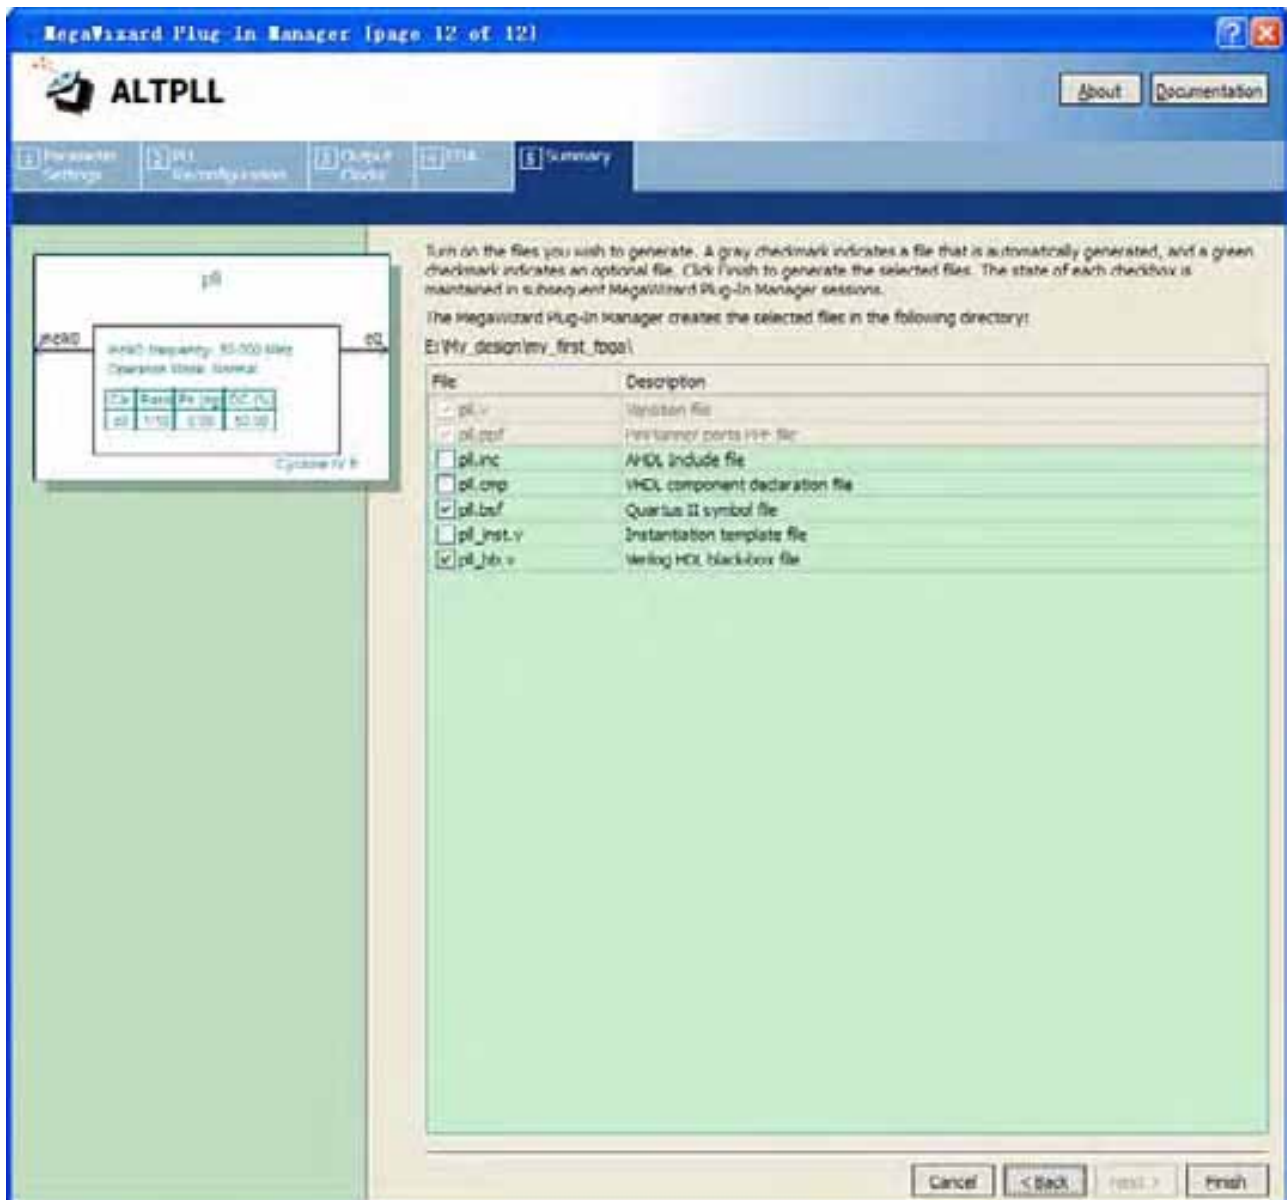

Figure 6-24 Wizard-Created Files
10. The wizard displays a summary of the files it creates (see Figure 6-24). Select the pll.bsf option and click Finish again.